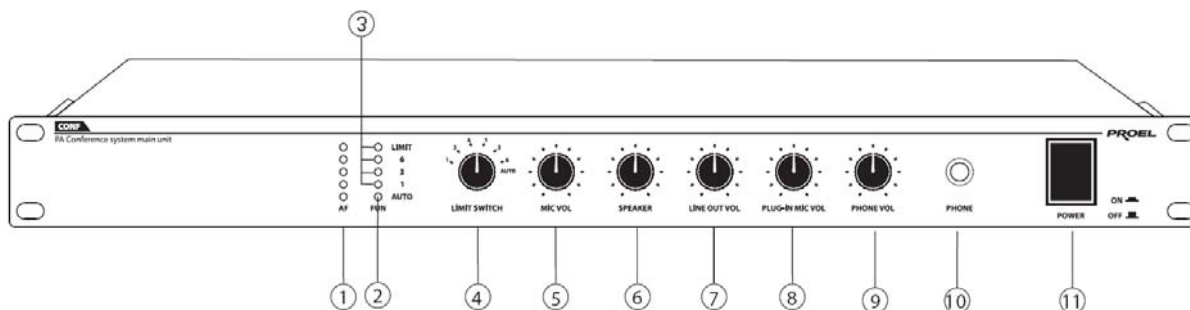
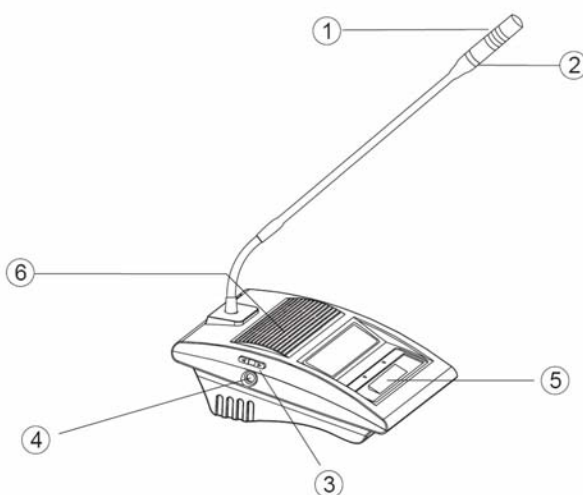

fig.1
fig. 3
Power the main central unit **CONF**, the led (fig1. ref.11) will indicate the number of microphone stands to be able contemporaneously and in accordance with the selection choice throughout **LIMIT SWITCH** (fig1. rif4). Such selector allows to set both: the able quantity of microphone stands to operate contemporaneously and the operating mode (**AUTO** or normal). For such setting steps revert to paragraph 3. Set microphones and loudspeakers volume control in accordance with the requirement. The system is ready for use, press Key **MIC** (fig.3 ref.5 - fig.4 ref.5) of Chairman microphone or delegate microphone stand, the lighting ring is ON status and it is possible to start the conference/speech. The next **MIC** key pressing and if **AUTO** function is activated, the microphone is disabled. Chairman microphone stand is priority key equipped. In fact when **PRIORITY** key is pressed all the remaining microphone stands involved by the configuration will be disabled.